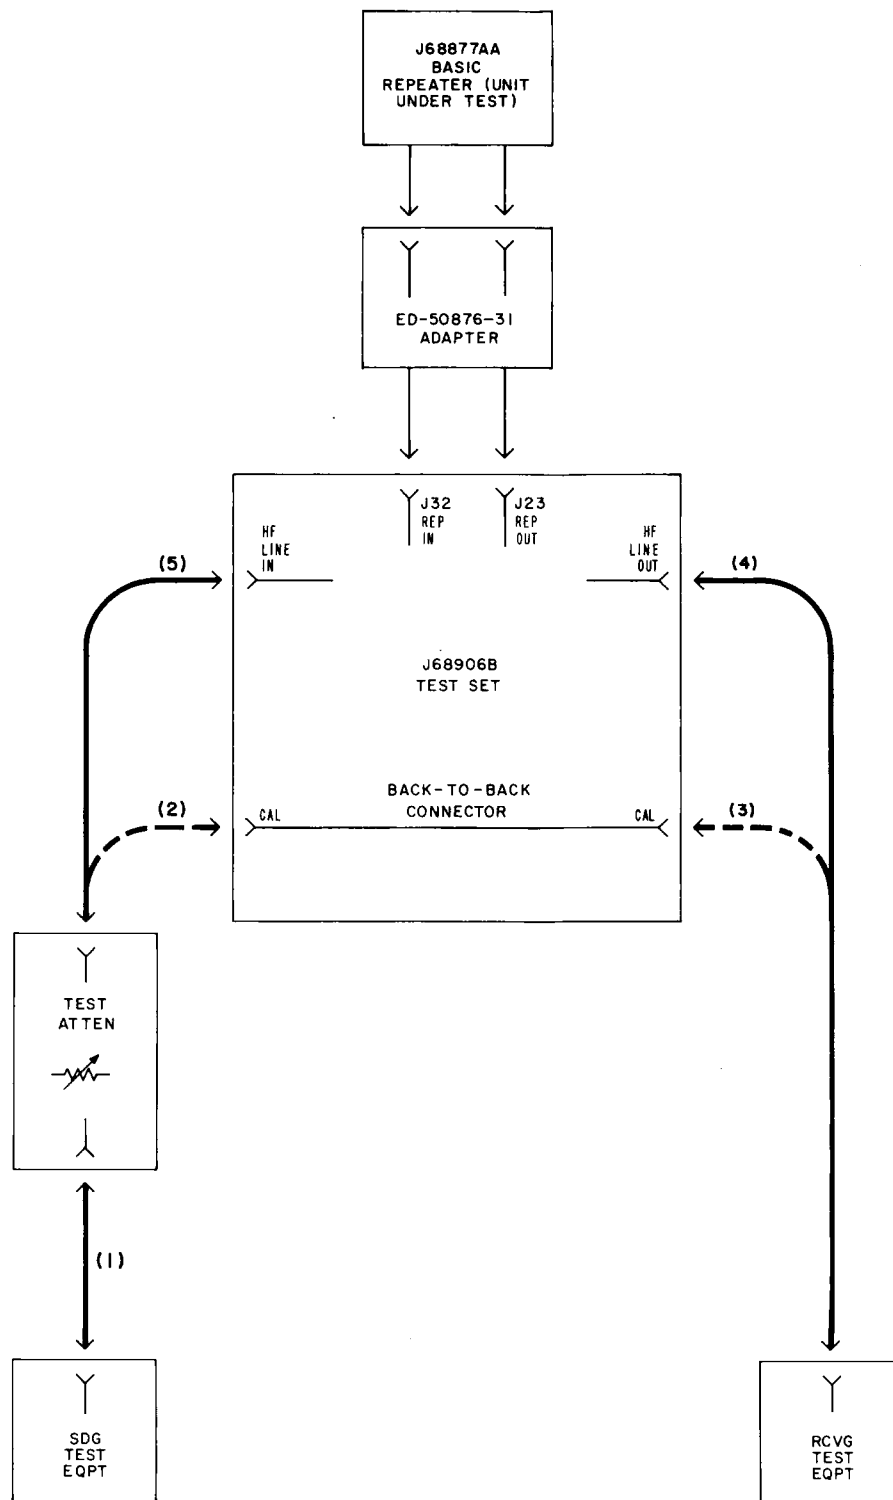

Fig. 3—Test Arrangements
12	Patch the output of the STE through the test attenuator to the CAL jack associated with the HF LINE IN jack on the test set jack panel [patches (1) and (2), Fig. 3].
15	Patch the RTE to the CAL jack associated with the HF LINE OUT jack [patch (3), Fig. 3].
18	Patch the RTE to the HF LINE OUT jack [remove patch (3) and make patch (4), Fig. 3].
19	Patch the test attenuator to the HF LINE IN jack [remove patch (2) and make patch (5), Fig. 3].